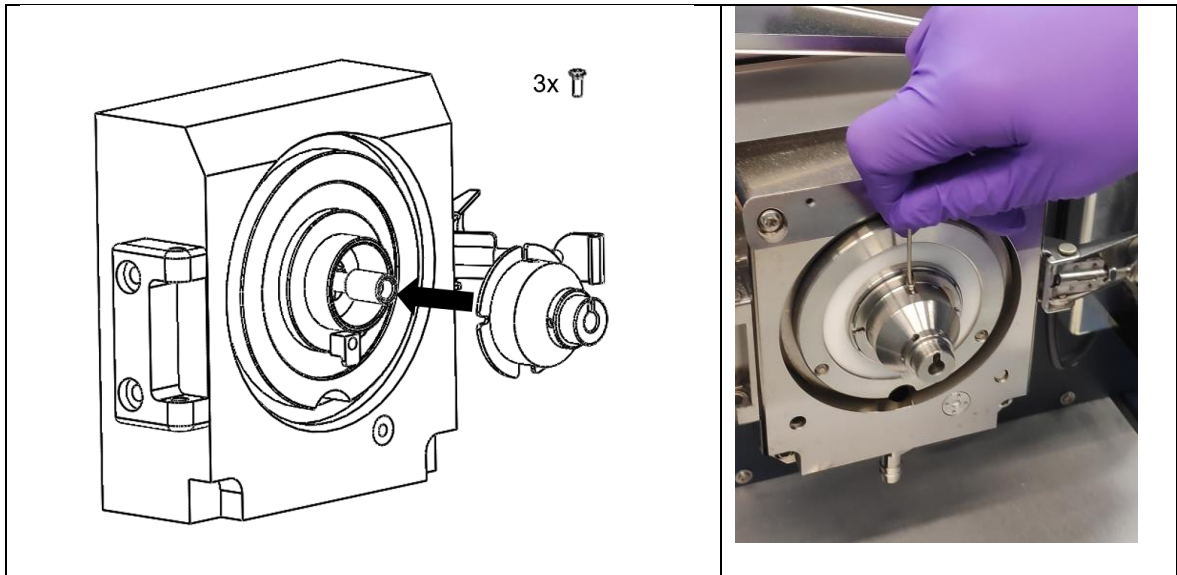

Figure 4: Installation of the inlet adapter.
- Mount the inlet adapter using the delivered screws over the ceramic spacer (see Fig. 4).